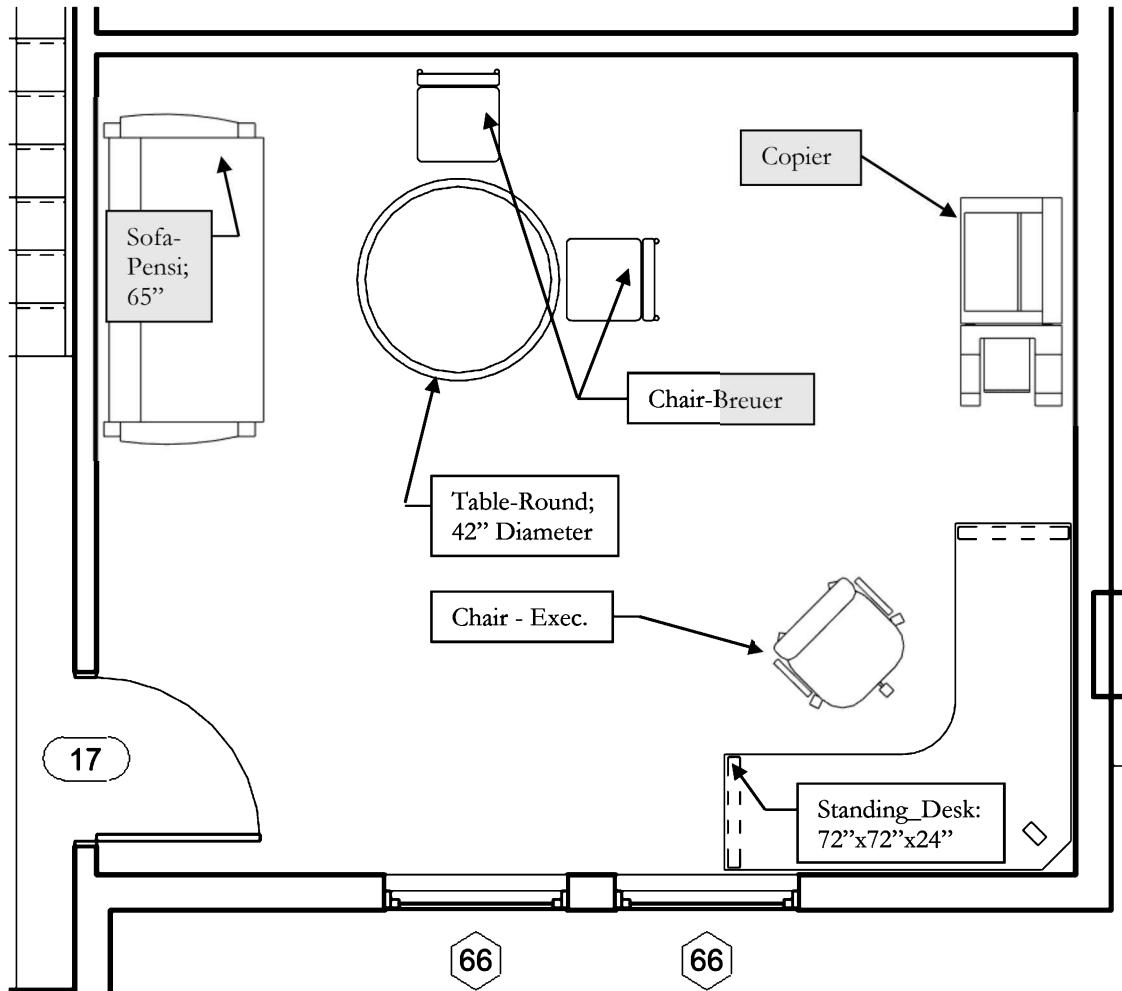

FIGURE 12-3.1 Second Floor – Office furniture layout
4. Using the **Component** tool, place the furniture as shown in Figure 12-3.1.